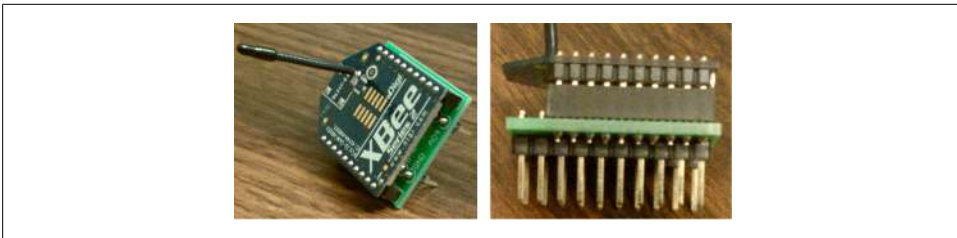

Figure 3-8. Finished breakout board with XBee mounted
3. Test-fit the XBee into the female sockets, being careful not to bend its pins (see Figure 3-8).